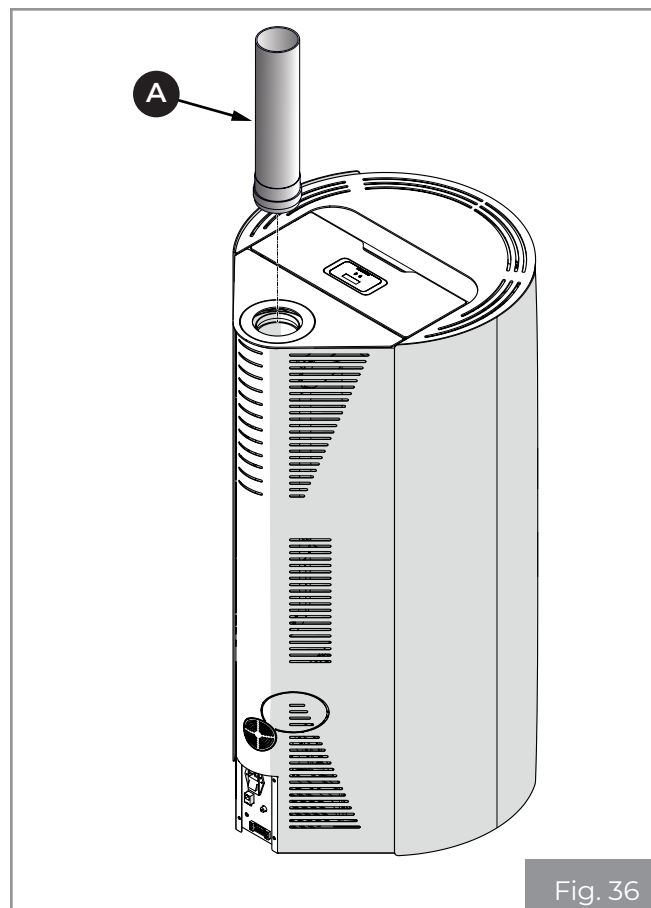

Fig. 36
- Connect the flue gas outlet pipe **(A)** (Fig. 36).